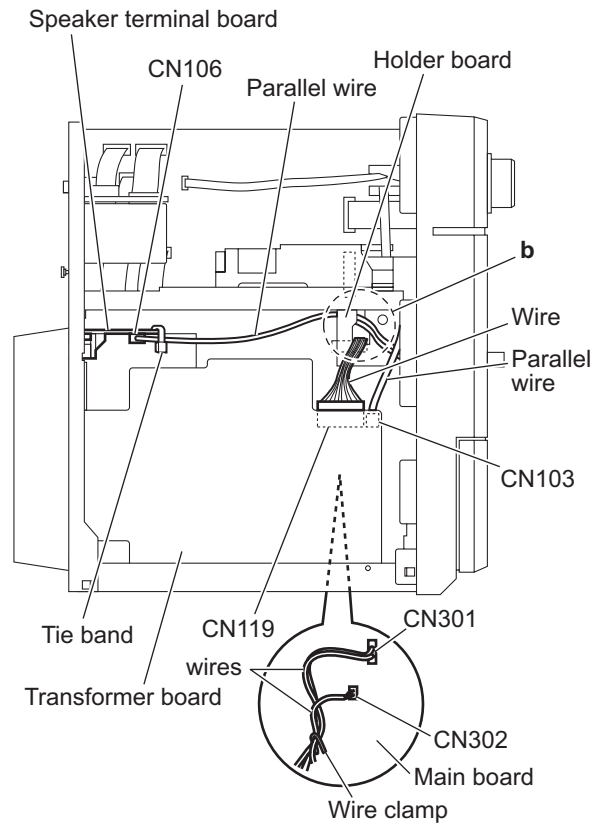

Fig.5
- (4) Remove the wire clamp fixing the wires and disconnect the wires from the connector (CN301, CN302) on the forward side of the main board. (See Fig.5.)
After connecting the wires to the connectors, fix the wires with the wire clamp as before. (See Fig.5.)
- (5) From the left side of the main body, disconnect the parallel wire from the connector CN103 on the transformer board. (See Fig.5.)
- (6) Disconnect the wire from the connector CN119 on the transformer board. (See Fig.5.)
After connecting the wire, pass the wire through the slot **b** of the holder board as before. (See Fig.5.)
- (7) Remove the tie band fixing the wire and disconnect the wire from the connector CN106 on the speaker terminal board. (See Fig.5.)
- After connecting the wire, fix the wire with a new tie band as before. (See Fig.5.)
- After connecting the wire, pass the wire through the slot **b** of the holder board as before. (See Fig.5.)